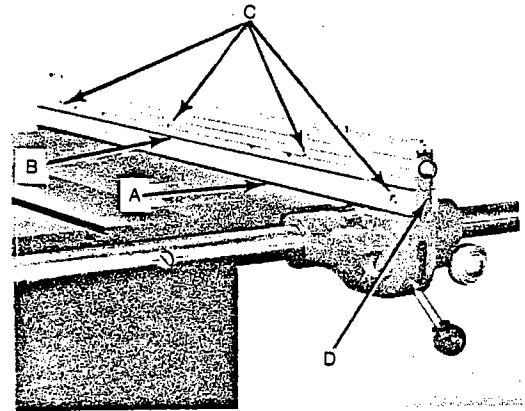

FIGURE 17
1. Loosen four screws C (Figure 17).